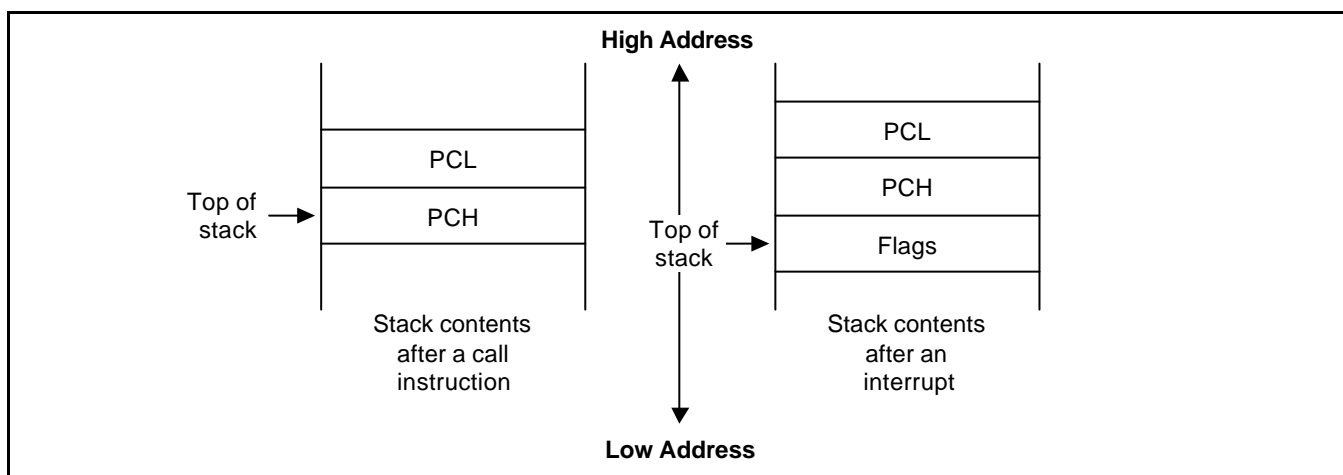

Figure 2-17. Stack Operations
Return addresses for procedure calls, interrupts, and data are stored on the stack. The contents of the PC are saved to stack by a CALL instruction and restored by the RET instruction. When an interrupt occurs, the contents of the PC and the FLAGS register are pushed to the stack. The IRET instruction then pops these values back to their original locations. The stack address value is always decreased by one before a push operation and increased by one after a pop operation. The stack pointer (SP) always points to the stack frame stored on the top of the stack, as shown in Figure 2-17.